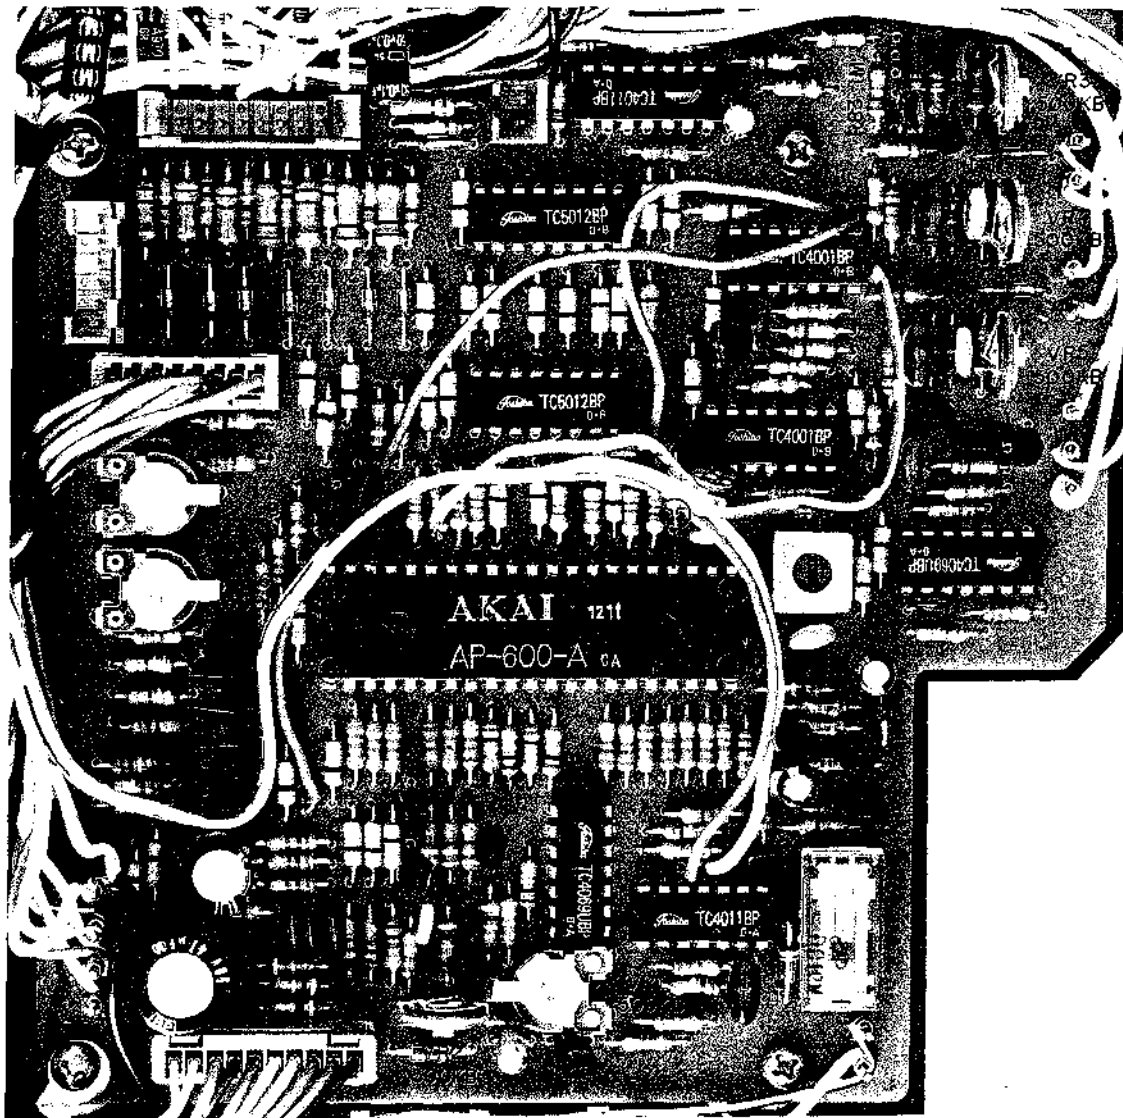

Fig. 36 Arm Control P.C Board
1. Basic Clock Oscillation Frequency Adjustment (Refer to Fig. 36)
2. Arm Sensor Sensitivity Adjustment (Refer to Figs. 36 to 38)
3. Adjusting to the Amount of Light in the Arm Sensor LED. (Refer to Figs. 36 to 38)
4-1. 17 cm Record Position (Refer to Figs. 36, 40)
4-2. 30 cm Record Position (Refer to Figs. 36, 41)
4-3 25 cm Record Position (Refer to Figs 36, 41)